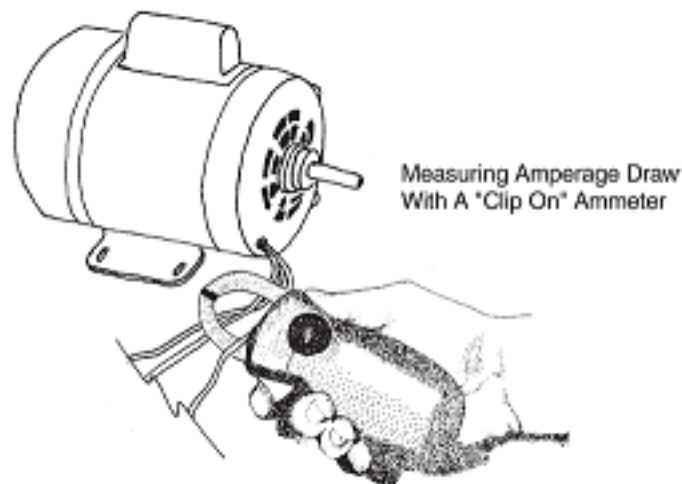

Figure 551-88L-3063_04
(1) Motor misaligned to load, (refer to Figure 551-88L-3063_05).
(2) Load out of balance, (direct drive application only).
(3) Motor bearings defective.
(4) Rotor out of balance.
(5) Motor may have too much endplay.
(6) Winding may be defective.